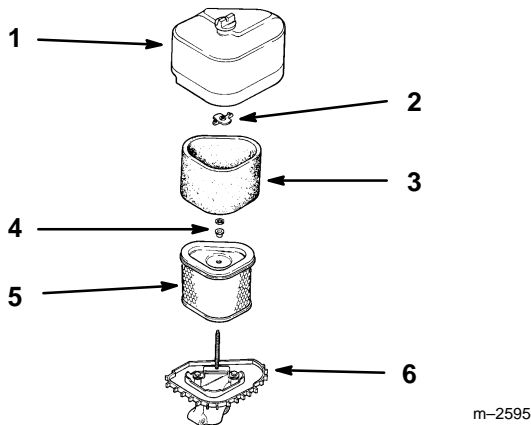

Figure 17
2. Clean around the air cleaner to prevent dirt from getting into the engine and causing damage. Unscrew the cover nut and remove the air cleaner cover (Fig. 17).
3. Remove the air cleaner assembly (Fig. 17).
4. Carefully slide the foam element off the paper element (Fig. 17).